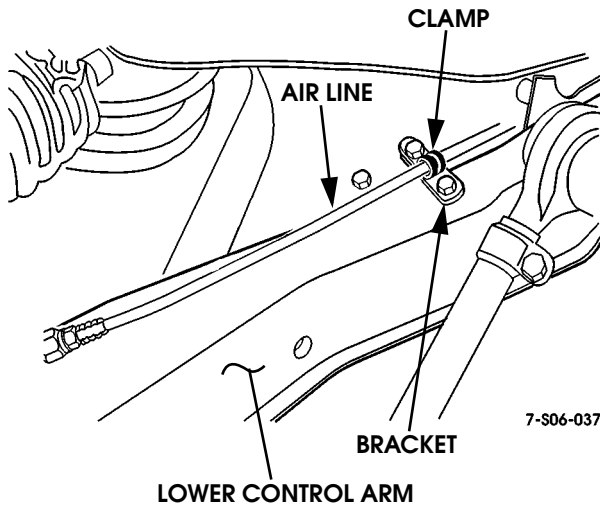

Figure 6-74: Line Bracket and Clamp Location
2. Loosen clamp on bracket attached to lower control arm, then move air line out of bracket (Figure 6-74).